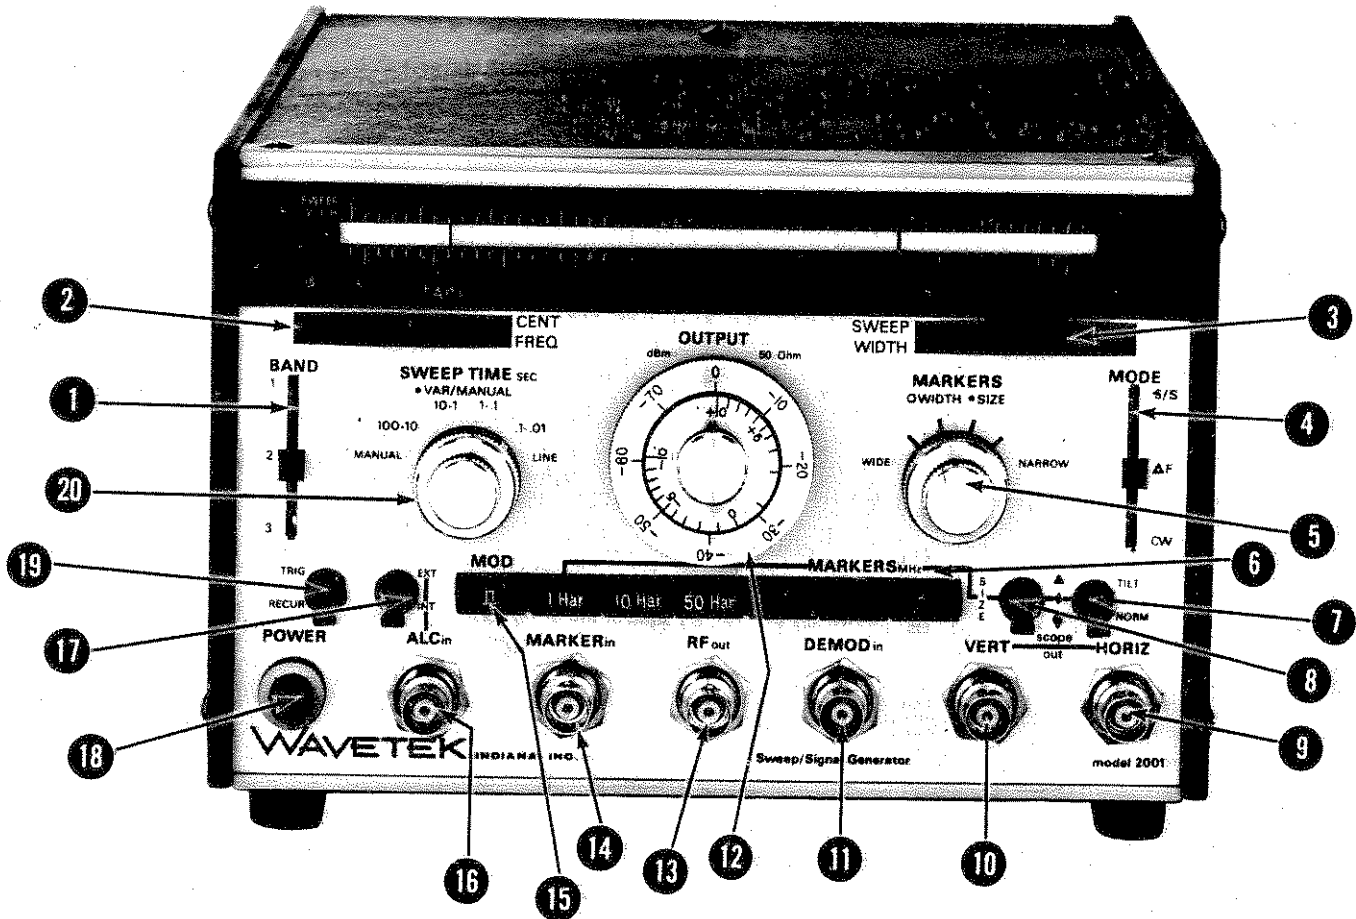

Figure 3-1. Front Panel
3.2 DESCRIPTION OF FRONT PANEL (Refer to Figure 3-1 for control location)
- ① BAND Switch – Selects desired band; 1 to 500 MHz, 450 to 950 MHz or 900 to 1400 MHz.
- ② START/CENTER FREQ. – Controls Start Frequency when MODE Switch is set to S/S (Start/Stop) or Center Frequency when MODE Switch is set to Δf and C.W.
- ③ STOP/SWEEP WIDTH – Controls Stop Frequency when MODE Switch is set to S/S (Start/Stop) or controls Sweep Width when MODE Switch is set to Δf .
- ④ MODE Switch – Selects Start/Stop, Δf or continuous wave operation.